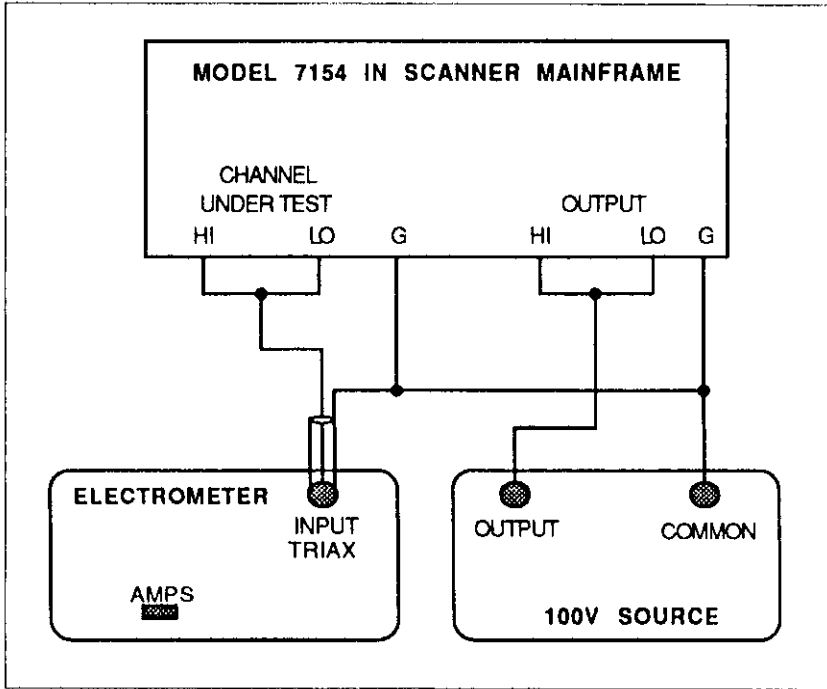

Figure 3-2. Channel Isolation
1. Set up the equipment as shown in Figure 3-2.